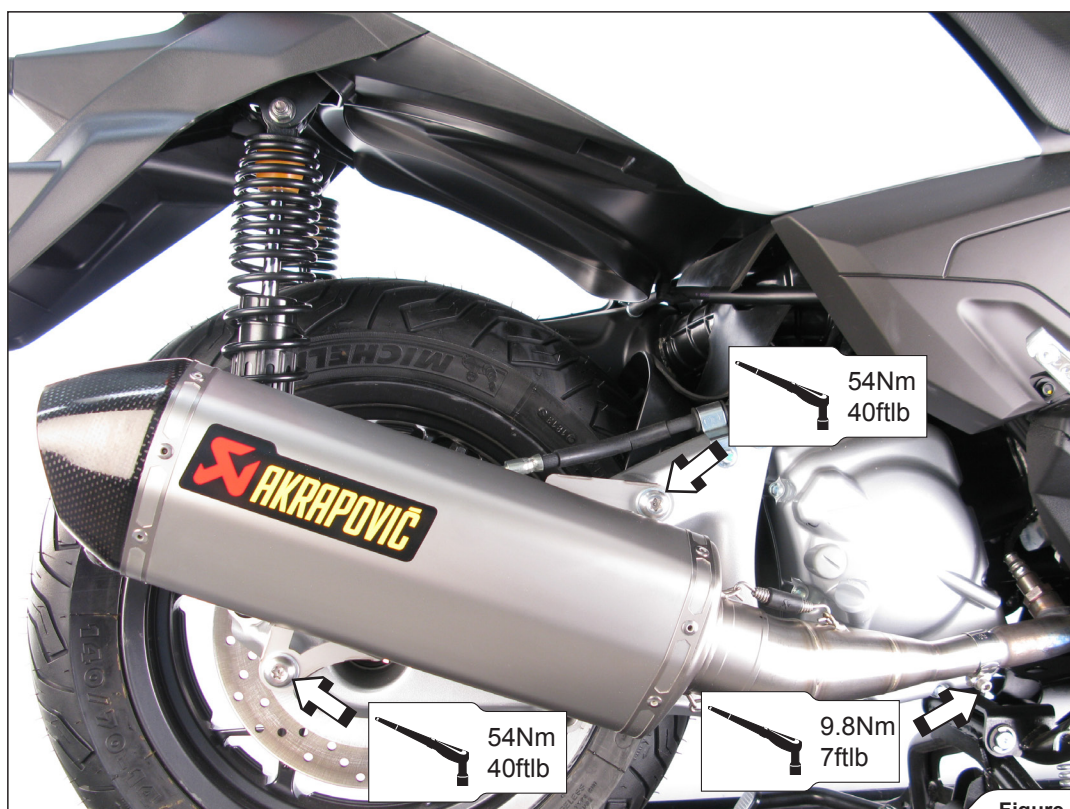

Figure 6
3. Carefully slide the muffler with link pipe onto the outlet side of the stock header pipe. Rotate the link pipe inside the muffler's inlet, until the muffler's brackets align with the two stock threaded muffler's brackets. Tighten the metal clamp at the Akrapović link pipe/stock header pipe joint and muffler bracket bolts to a specified torques (**Figure 6, 7**).